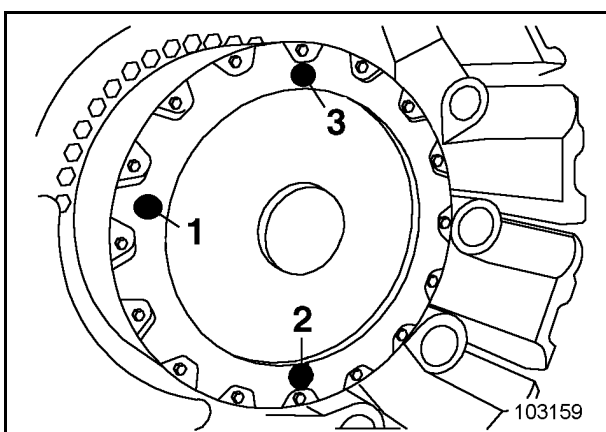

Fig. 3-115:
- Move the excavator into such a position that the screw plugs (1, 2 and 3, Fig. 3-115:) are in the displayed position.
- Unscrew checking screw (1).